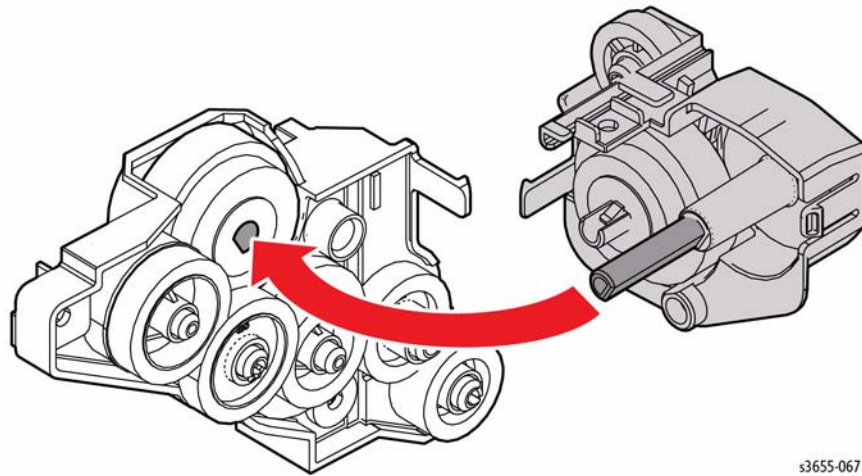

**Figure 5 Assemble the Exit Drive Assembly**
1. Figure 5 shows gear placement in the Exit Drive Assembly.